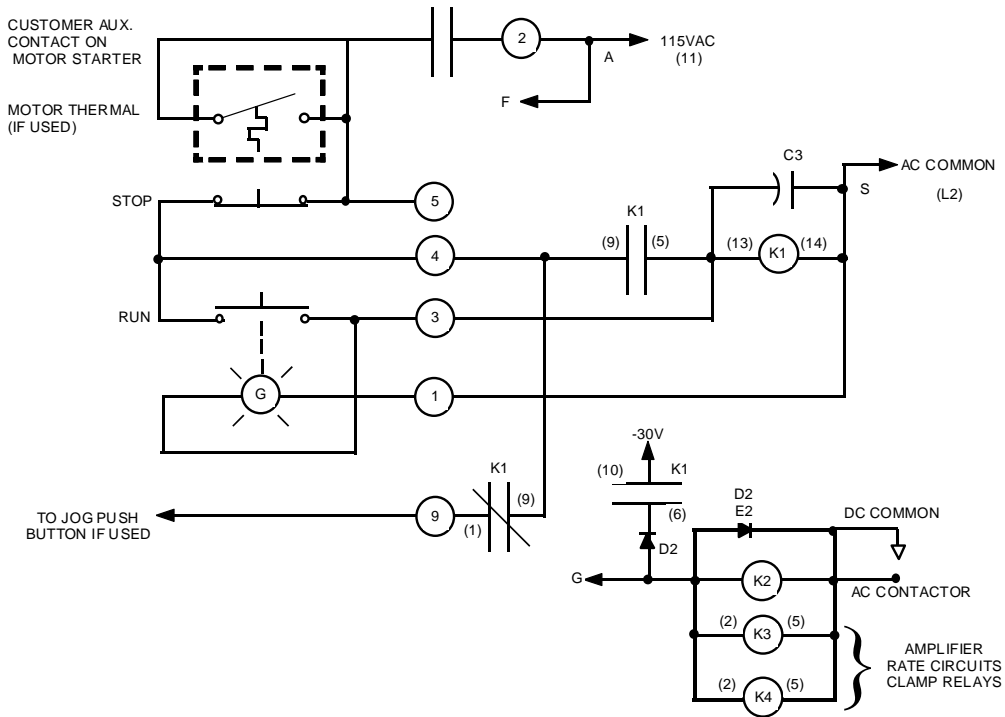

Figure 4: Run Relay Circuit
Normally open contact of JA (12)-(8) connect K2-K3 and K4 to -24VDC at Y. The function of these relays is the same as described (Figure 4).